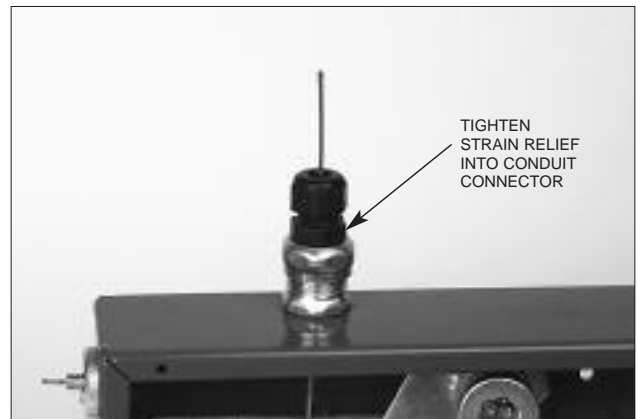

FIGURE 7
7. Tighten the body of the strain relief to the conduit connector. See Figure 7.